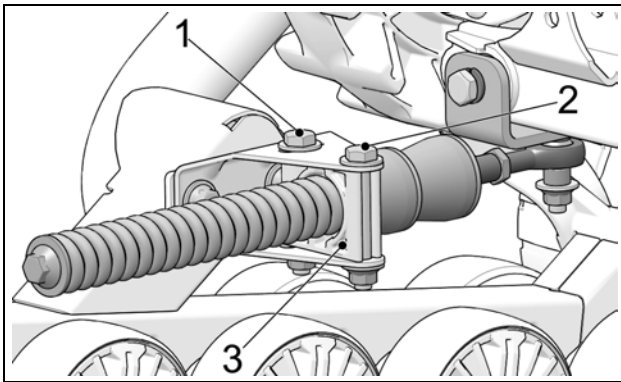

Figure 17
- Loosen anti-rotation bracket bolts (1) and (2) to allow anti-rotation retainer (3) to rotate on its axis. See Figure 17.